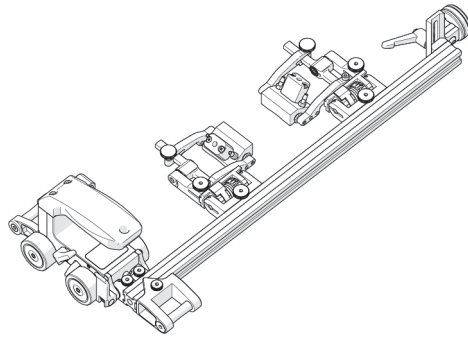

Figure 3-2 Assemble configuration
2. Assemble the appropriate configuration to the cart body (see Figure 3-2 on page 82). Install the wedge and probes that will be used (see “Slip Joint Probe Holder” on page 54).